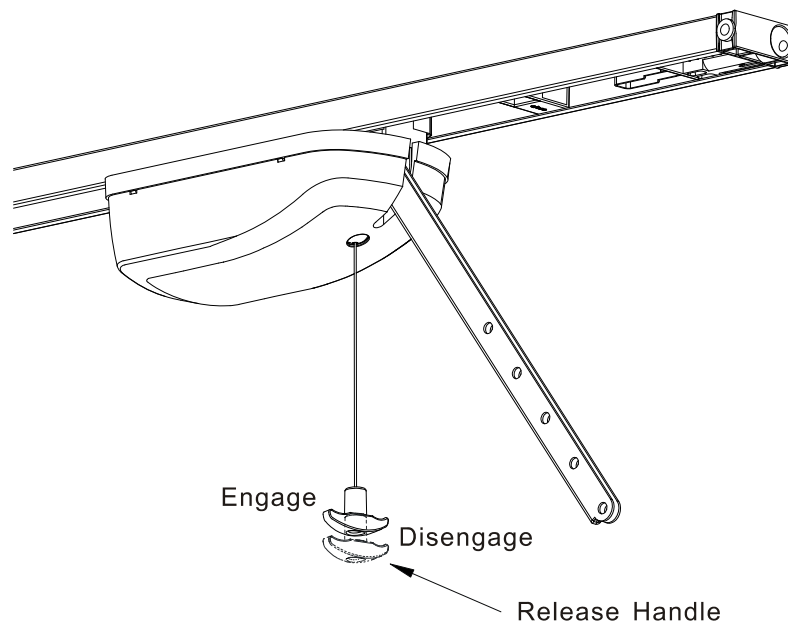

Fig. 10
- With the Drive Unit **disengaged** (Fig.10) position the Drive Unit in either one of the following ways;
- TO DISENGAGE - pull down on the release handle (Fig.10) until a click is “felt” and then release the handle.